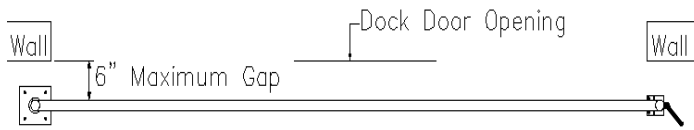
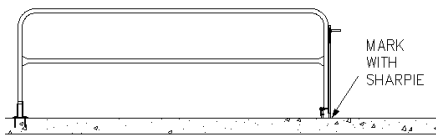

Figure 2
Figure 4
4. Position Rolling Safety Gate across opening of dock door see figure 2.
5. Layout pivot base location and mark on floor with Sharpie marker (4) locations for concrete anchors. The installer must ensure that the gate is wider than the opening of the dock and the gaps must be less than 6 inches on both sides see figure 2 and figure 4.
6. Drill (4) ¼" diameter by 4 inch deep holes into the concrete. Concrete must be a 4 inches thick or greater.
9. Insert ¼" anchor bolt and use a 7/16" socket or wrench to tighten anchor bolt to 18 ft-lbf torque. Repeat this step with the remaining anchor bolts until (4) anchor bolts are securely fastened to the concrete floor.
10. Visually inspect all (4) concrete anchors verifying that each anchor is tight to pivot base.
13. Mark floor with Sharpie marker where locking pin rests on the concrete floor see figure 4.